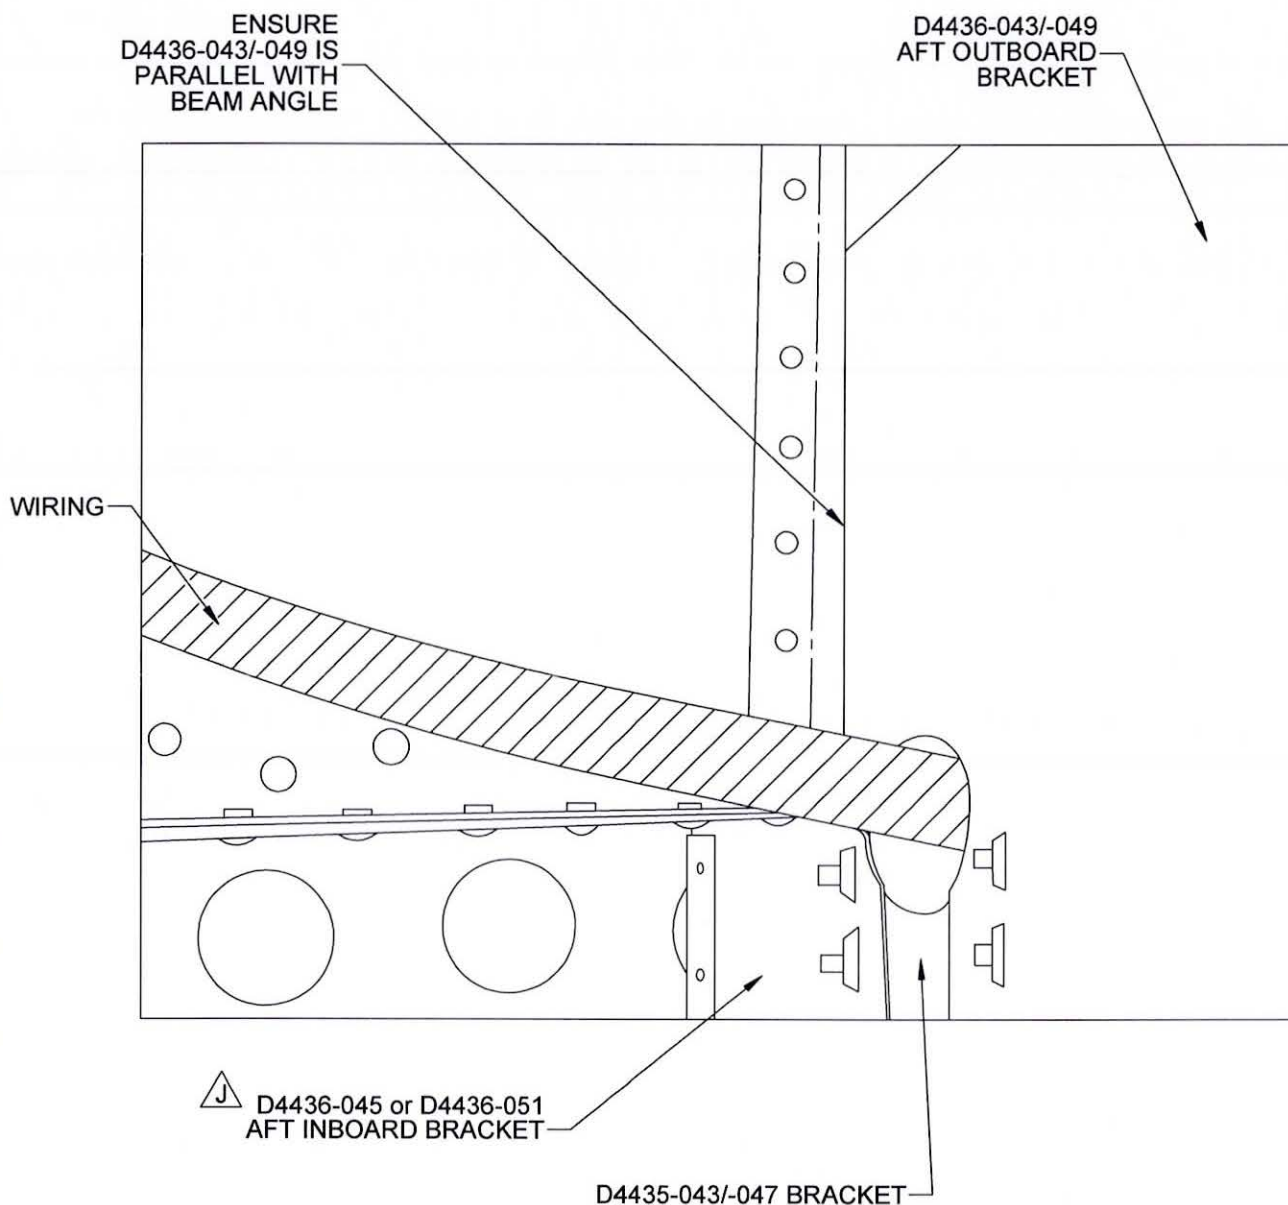

Figure 4. D4436-043/-049 & D4435-043/-047 Brackets Installation ⚠ J
- Confirm that the D4436-043/-049 Aft Outboard Bracket and beam angle are parallel as shown in Figure 4.